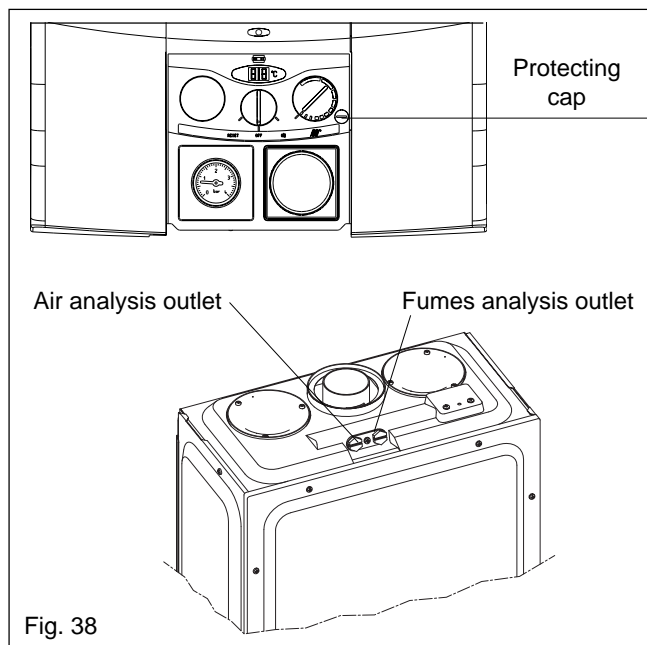

Fig. 38
- Insert the flue gas analyser probe into the right hand test point (see fig 38).
- Locate and remove the protective cap that conceals the 'CO mode' button (see fig. 38).